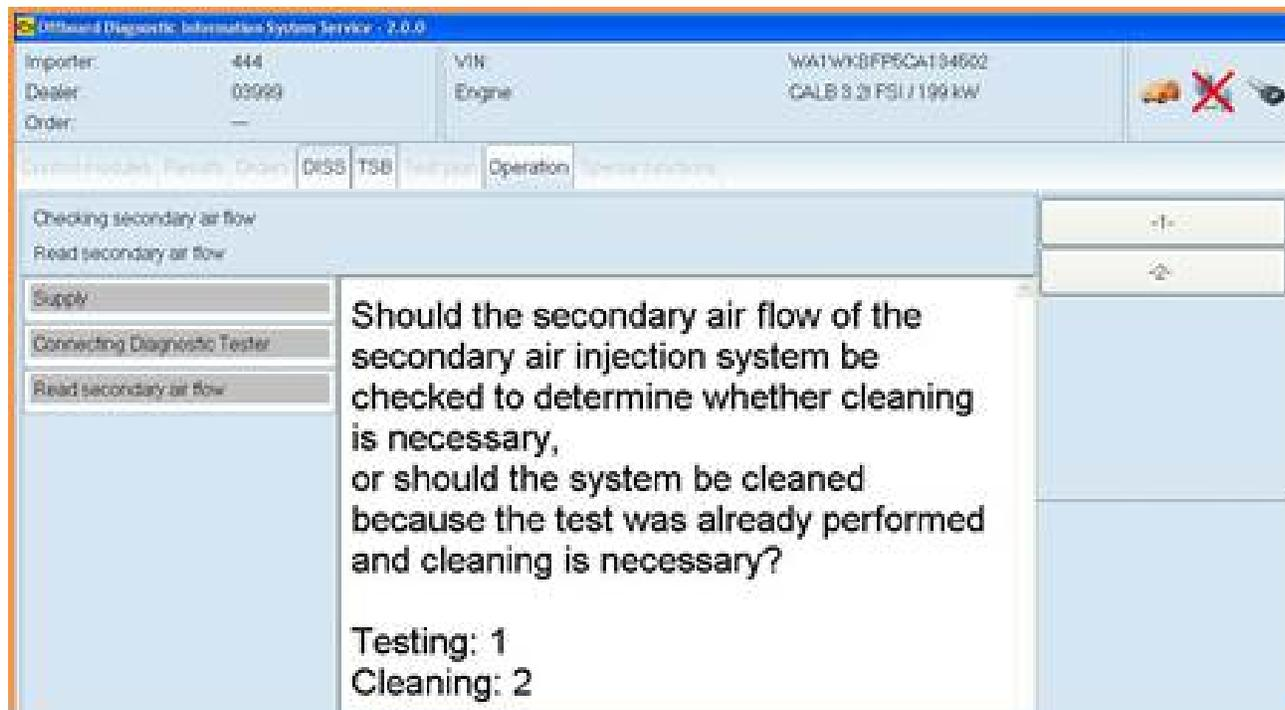

Figure 2. Select **-2-** for **Cleaning**.
3. On the next screen, select **-2-** for **Cleaning** (Figure 2).